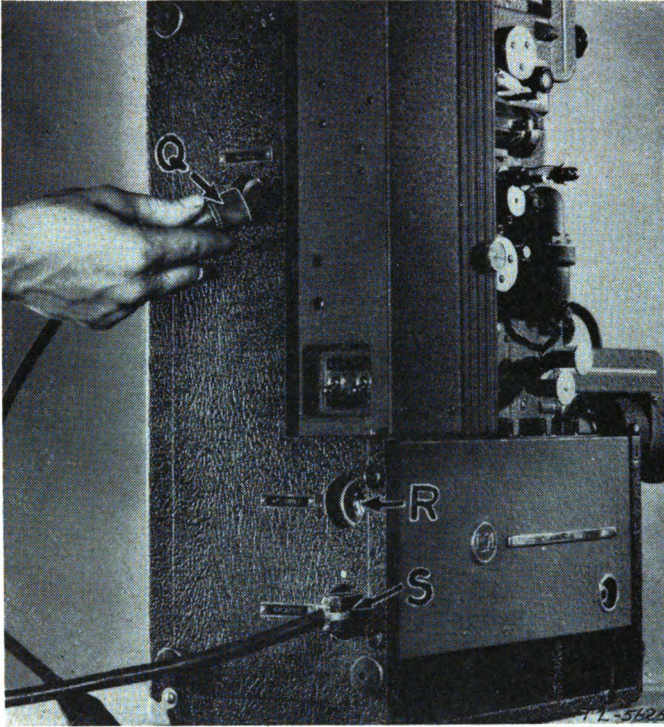

FIGURE 14.—R. C. A. electrical connections.
(4) *R. C. A.*—Plug the *Y*-ends of the *Y*-power cable into the *Q* (AC-DC) and *R* (AC-ONLY) receptacles (fig. 14) located on the back of the projector. Insert the plug on the other end of the power cable in the power source receptacle. Connect speaker to projector by inserting speaker cable plug in receptacle *S*.